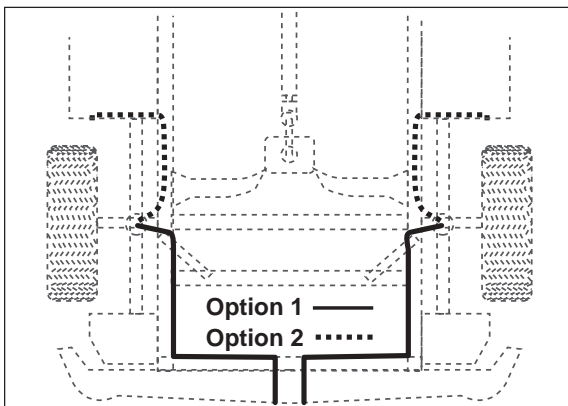

Figure 7
1. Select a location for the inflation valves in the rocker panel flange, or rear bumper, assuring that each valve will be protected and accessible with an air hose (Figure 7).